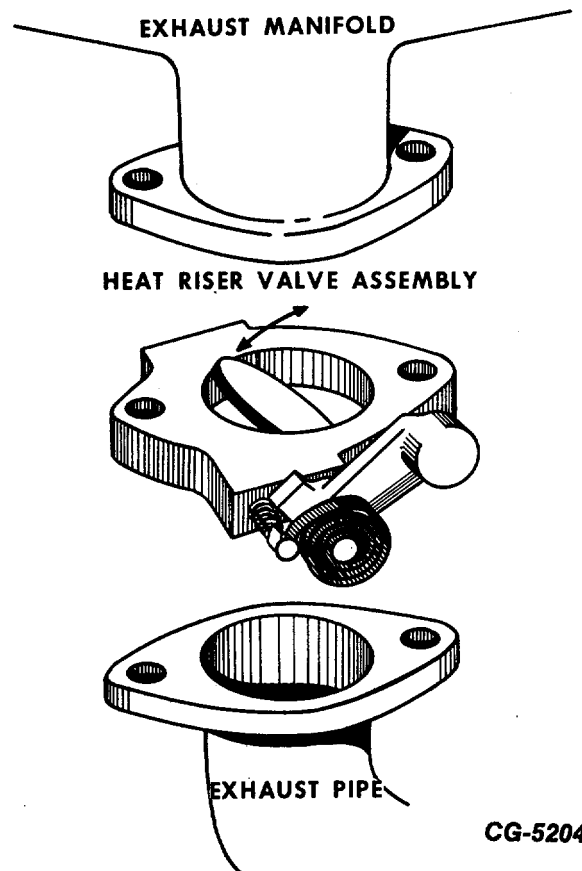

Fig. 39 Heat Riser Valve
- a. Inspect exhaust heat riser valve for free operation (Fig. 39).